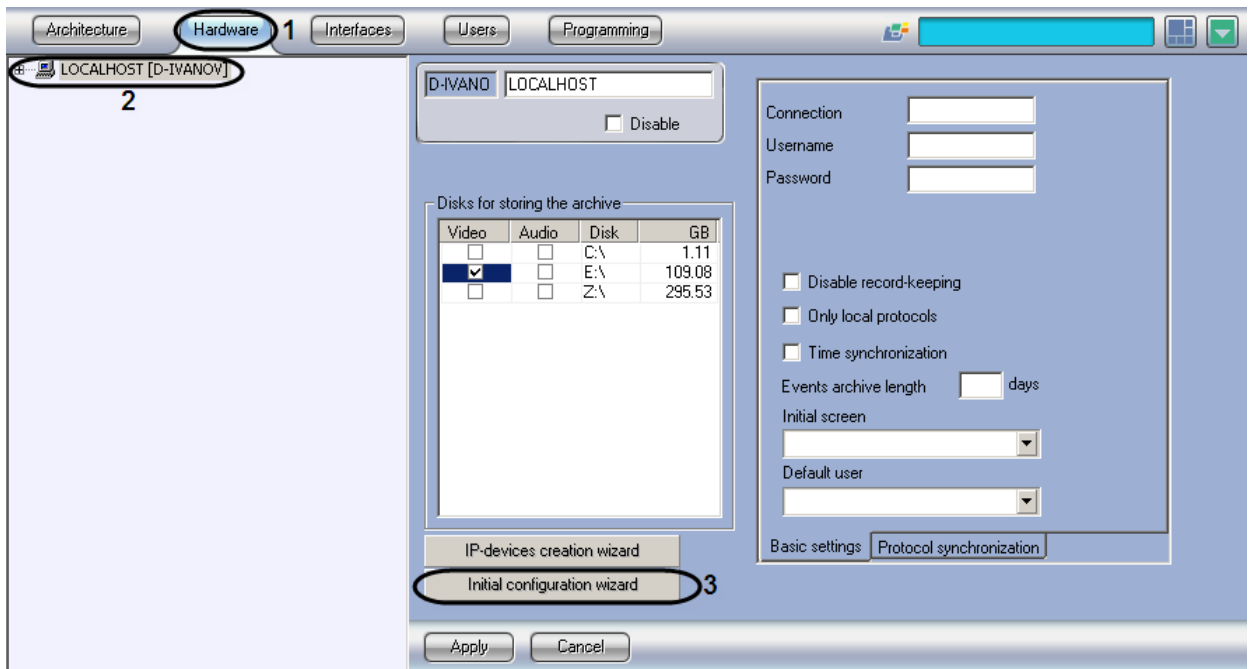

Figure 3.1-18 Initial configuration wizard
1. Go to the **Hardware** tab in the **System settings** dialog box (Figure 3.1-18, 1).
2. Select the **Localhost** object related to the required Server in the object tree on the **Hardware** tab (Figure 3.1-18, 2).
3. Click **Initial configuration wizard** on the settings panel of selected object (Figure 3.1-18, 3).